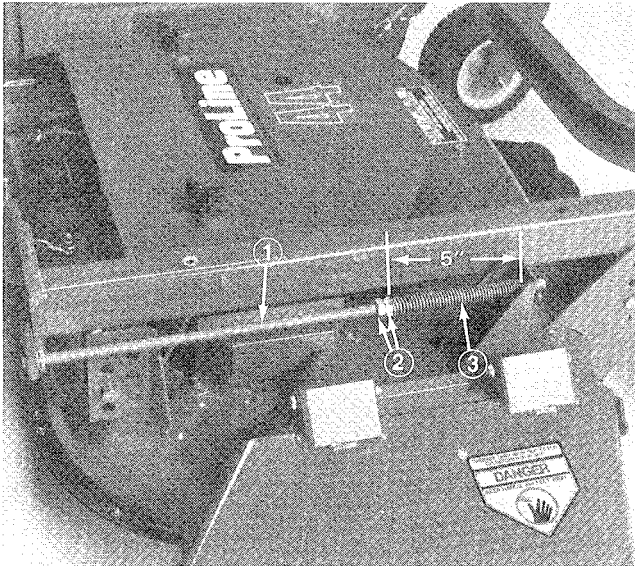

Figure 16
2. Loosen jam nuts on each adjusting shaft and remove engine to deck drive belt (Fig. 16).